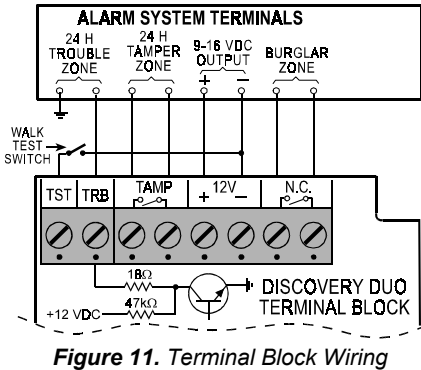

Figure 11. Terminal Block Wiring
Trouble Output: Open collector, 100 mA max., with 18Ω resistor in series and 47 kΩ pull-up (see Figure 11)
Refer to Figure 11 and connect wires to the terminal block in the following order:
* The LED may be enabled remotely with a test switch connected to the TST input as shown in Figure 11.